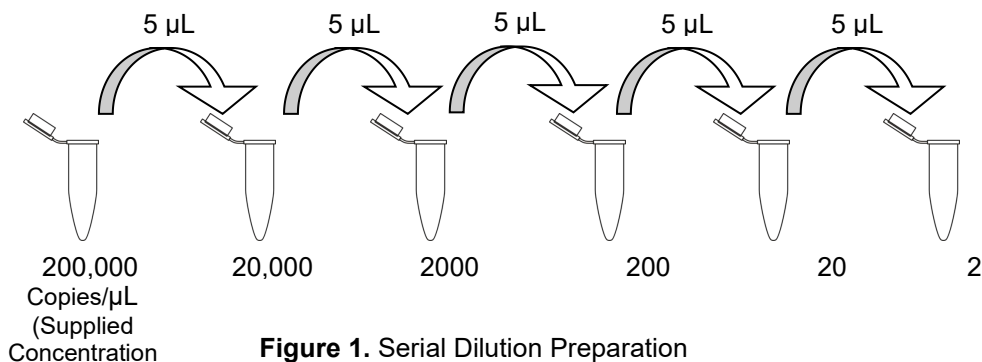

Figure 1. Serial Dilution Preparation
- Use 5 μ L of the Positive Control Standard supplied with the kit (200,000 copies/ μ L) to prepare 5 serial dilutions as outlined in Figure 1.